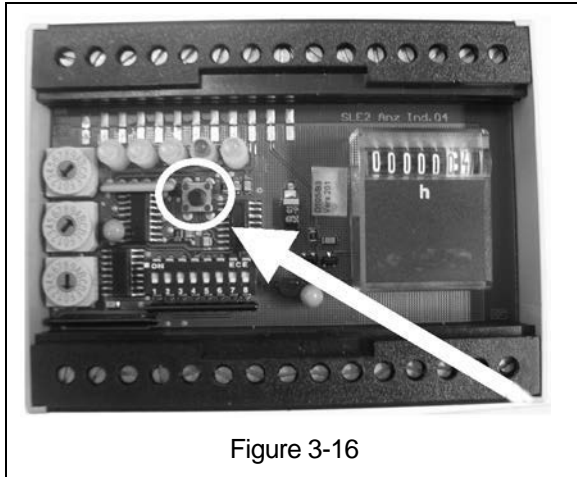

Figure 3-16
2. Press the S5 button, hold for more than 3 seconds, and release. (The S5 button is located directly below the red “err” LED). Figure 3-16.
- a. Press the S5 button for more than 3 seconds. (The S5 button is located directly below the red “err” LED). See Figure 3-16.